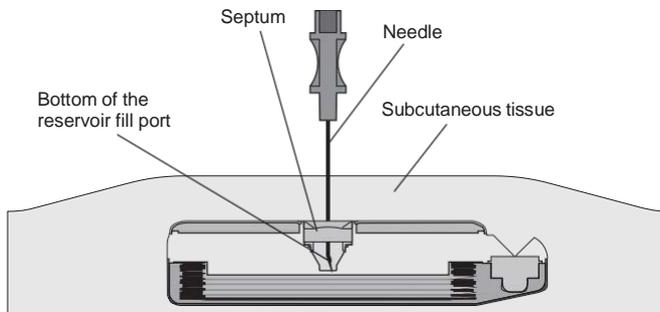

Figure 6 . View inside of a SynchroMed programmable pump while the needle is fully and properly inserted.
4. Gently insert the 22-gauge noncoring needle into the center of the reservoir fill port until the needle touches the bottom of the reservoir fill port (Figure 6).